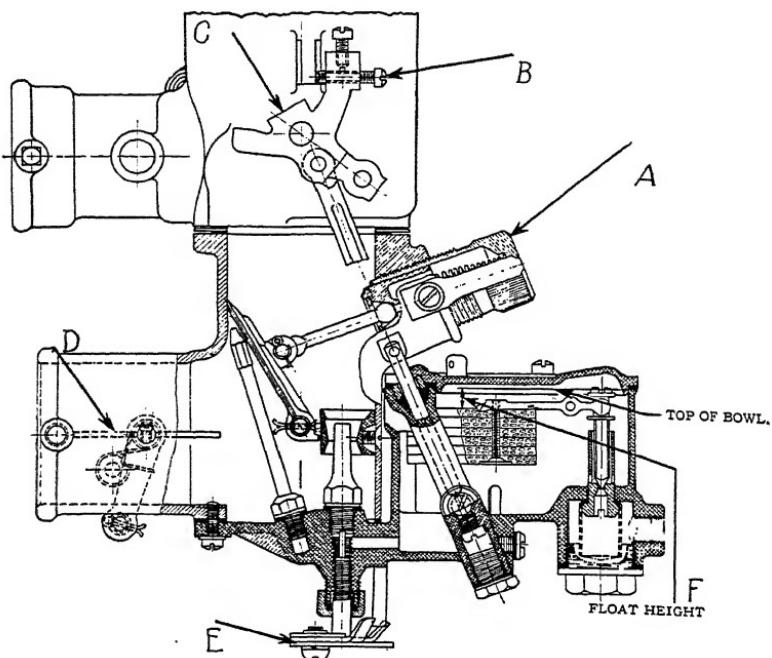

Fig. 86. Service Drawing of Model "T" Marvel
*Preliminary Adjustment.* First set the spark retarded and then adjust the idle speed by turning the air screw *A*, Fig. 86. Screw this out until the engine falters, then turn it in the opposite direction a few notches at a time until the engine runs smoothly. Have the engine thoroughly warmed up when making this adjustment. Also make sure that the heat control lever on the instrument board is set in a medium position for summer and with all heat on in the winter. If the air screw is turned in too far, a rolling effect will be noted in the engine and this indicates too rich a mixture. Adjust the air screw *A* until an even operation of the engine is secured.
*Choker Valve Adjustment.* The choker valve  $D$ , Fig. 86, is a butterfly valve in the main air intake. Inspect the choker valve to see that it closes completely when the choke is worked. If it does not, adjust the control so that it will close completely, otherwise hard starting will be encountered, especially in cold weather with a cold engine. Make a final inspection to see that it opens fully to the position shown in the dotted line at  $D$  and see that the choker valve is tight on its shaft.